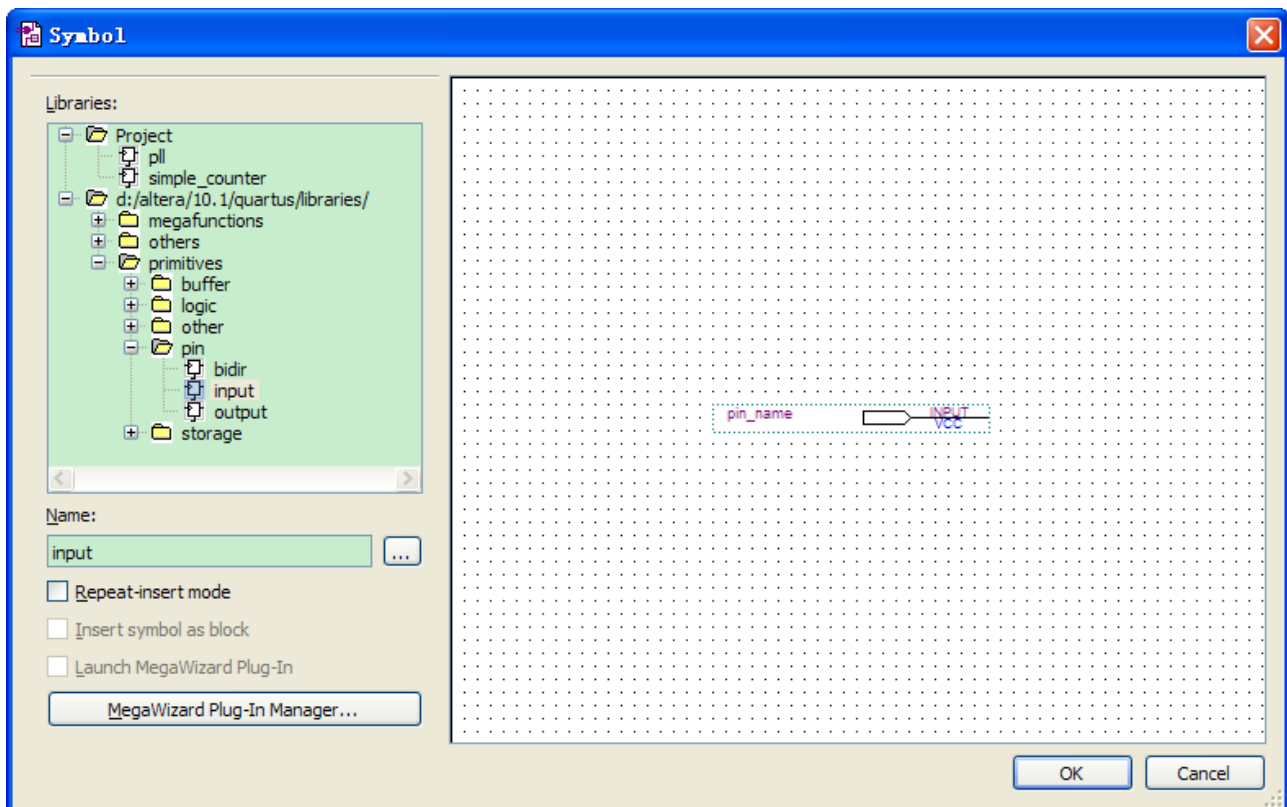

Figure 6-28 Input pin symbol
2. Under Libraries, select **quartus/libraries > primitives > pin > input**. See Figure 6-28